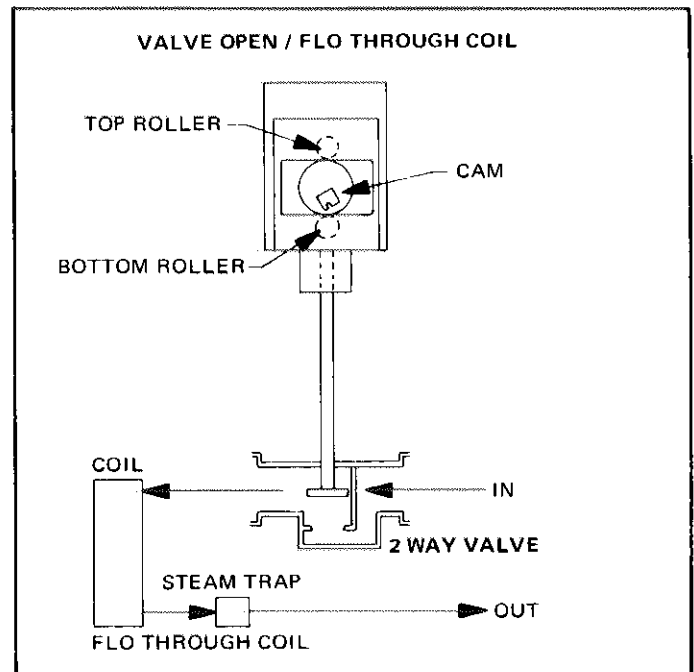

FIGURE 53
- 3 - Remove the jumper installed in step 2. Motor should rotate clockwise lifting valve stem. Refer to Figure 53.